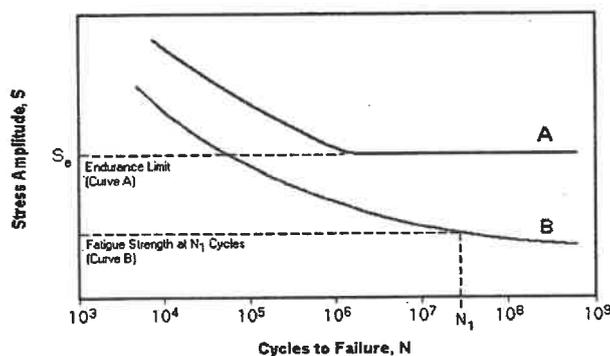

Figure 1
- ii. State the THREE (3) important reasons for alloying elements in plain carbon steels. (6 marks)
- (b) Figure 1 shows fatigue behavior of metal A and metal B. Explain the fatigue behavior for both metals and suggest the relevant examples.